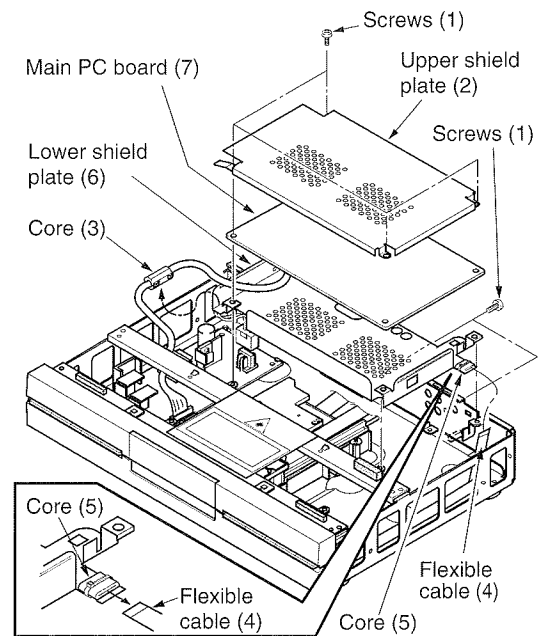
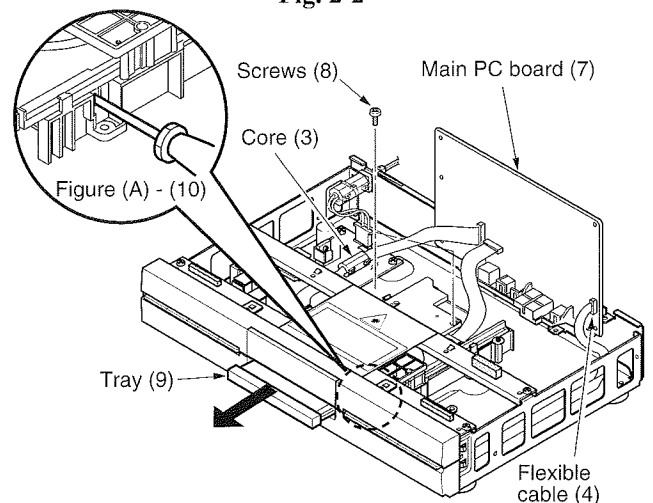
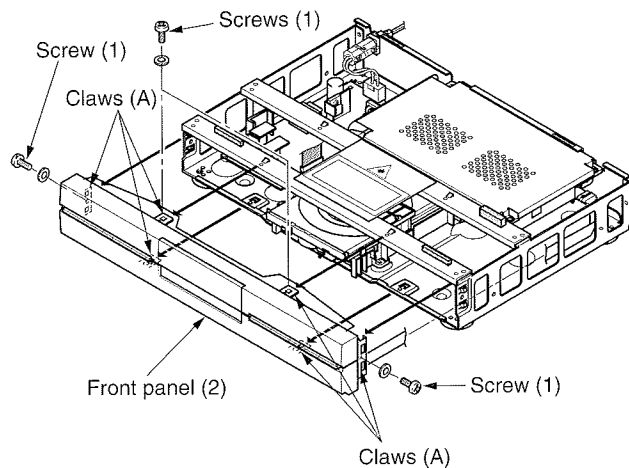

Fig. 2-2
Fig. 2-3
Fig. 2-5
1. Remove six screws (1) and the upper shield plate (2). (Refer to Fig. 2-2.)
2. Remove the core (3) and pull out the flexible cable (4) from the core (5). Then remove the lower shield plate (6).
3. Put the main PC board (7) vertically and connect the flexible cable (4).
4. Remove two screws (8) of the tray (9). (Refer to Fig. 2-3.)
5. Push the part (10) in figure (A) to unlock the tray (9).
6. When the tray (9) moves forward, pull out the tray (9).
1. Eject the tray. (If the tray does not move, take out the tray by referring to Fig. 2-3.)
2. Remove the tray panel. (Refer to item 1-1-3.)
3. Remove four screws (1). (Refer to Fig. 2-5.)
4. Remove the claw A (used at six locations), and remove the front panel (2).